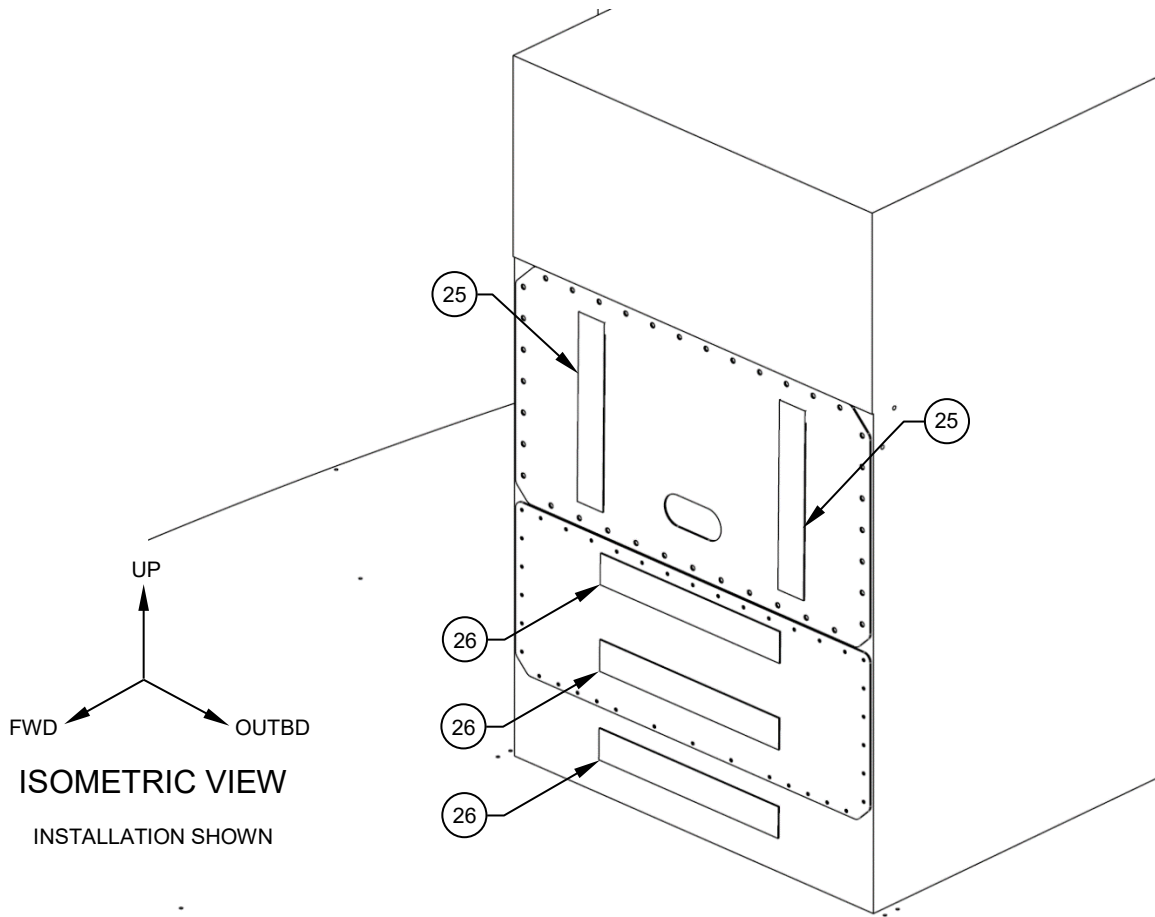

Figure 6
7. Using the felt pen marks as reference points, apply the Velcro®, Details (Items 25 & 26) to the pylon panel in their respective locations. Reference Figure 6. Apply adequate pressure to ensure a secure bond.